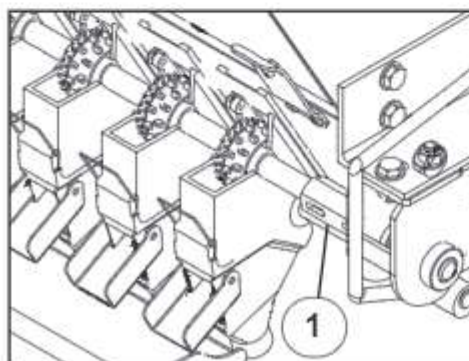

Fig 11
- 4 Agitator Shaft - Check the Seed Chart "Hints" (Table 3) whether to connect or disconnect the shaft by removing the M10 bolt (1) during seeding (Fig 11).